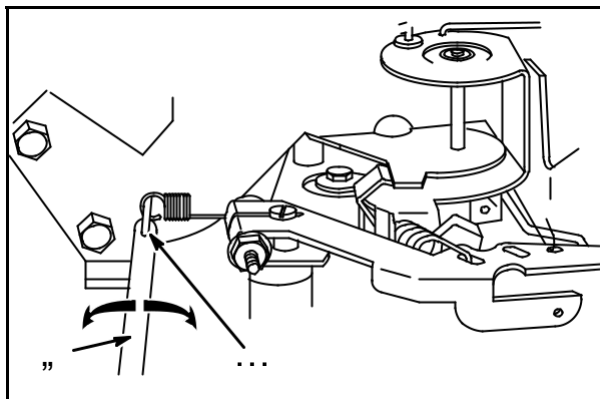

Fig. 12
If necessary bend governed idle tang (5) with Tang Bender #19352 (4), Fig. 12, to obtain RPM shown: